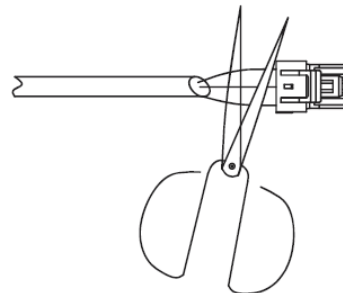

Fig. 20 —Shearing Outdoor Connector
1. Cut the connector on the outdoor unit side. See Fig. 20.